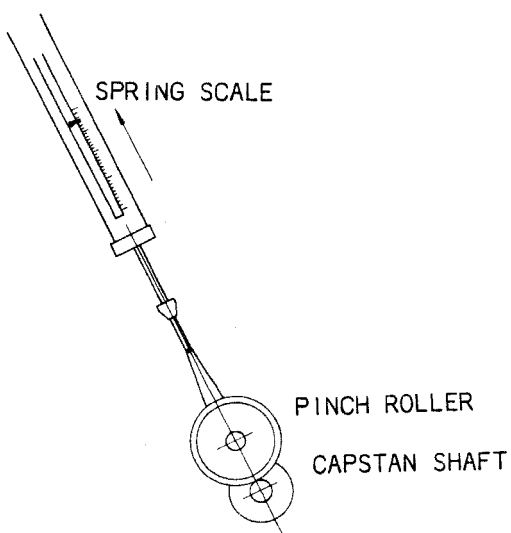

Figure 6-4 Pinch Roller Pressure Measurement
4. Hook a 3 kg (0 to 10 pounds) spring scale to the other end of the cord and pull the cord taut, straight to the center of the capstan as is shown in Figure 6-4. Do not let the cord come into contact with the rotating pinch roller.